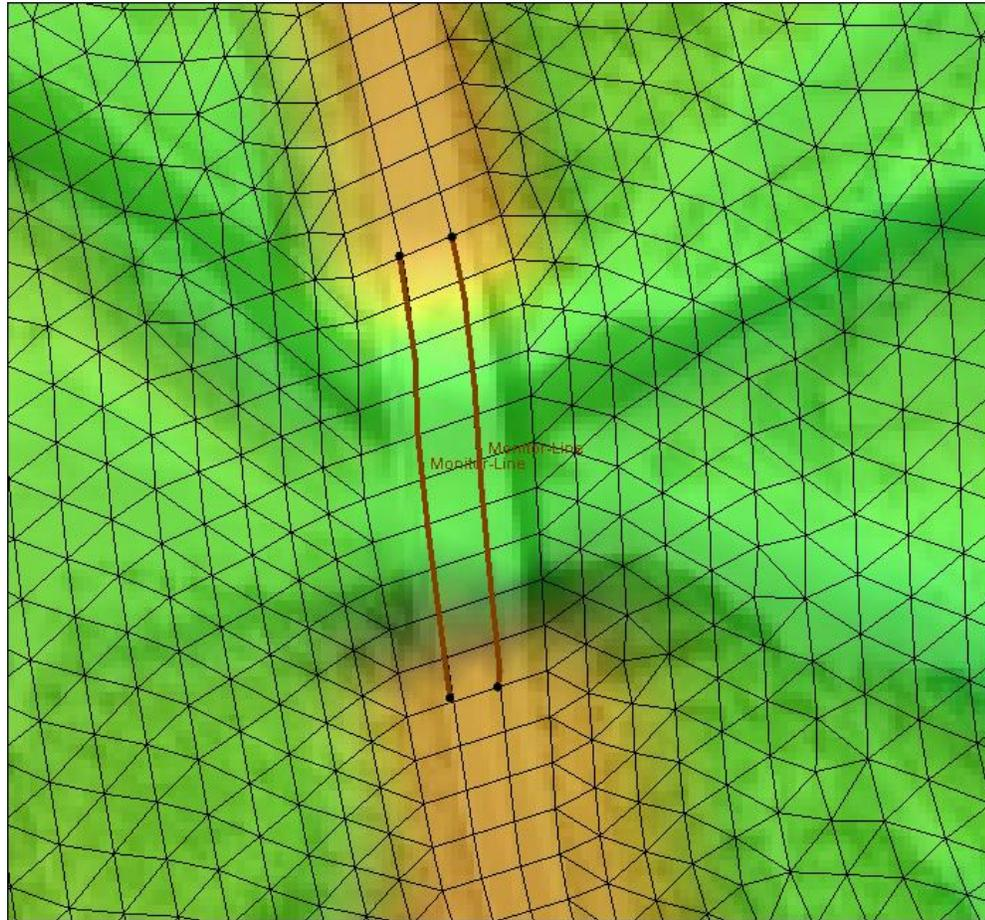

Figure 3 Pressure flow arc locations
6. Use the **Create Feature Arc**  tool to create one arc on each side of the bridge. These arcs will define the upstream and downstream faces of the bridge pressure flow boundary condition. The created arcs should look similar to Figure 3.